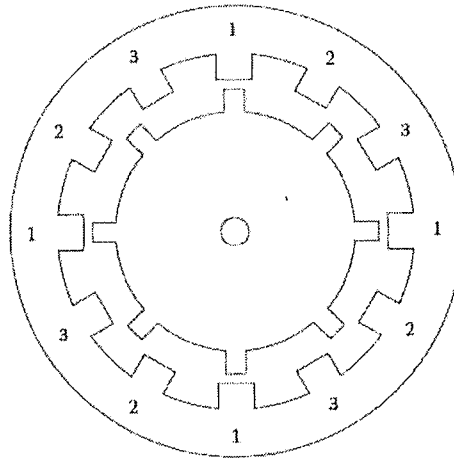

Figure Q3
- d) Single stack three phase variable reluctance stepper motor is illustrated in Figure Q3. Number of rotor teeth $n_r = 8$ and number of stator teeth $n_s = 12$.